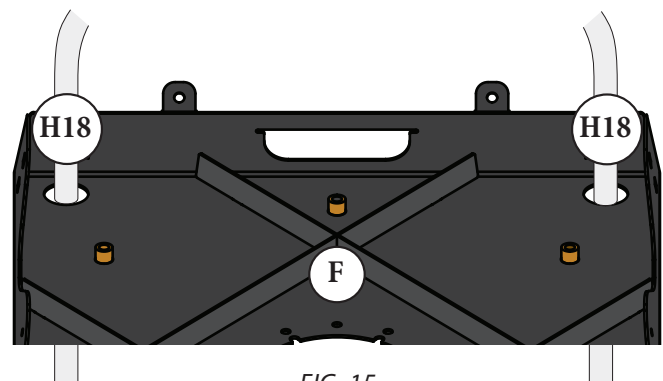

FIG. 15
Take the Tubing Assembly (H18) and route it through the closest retaining hole located in the back corner of the Stand Body (F) [FIG. 15].